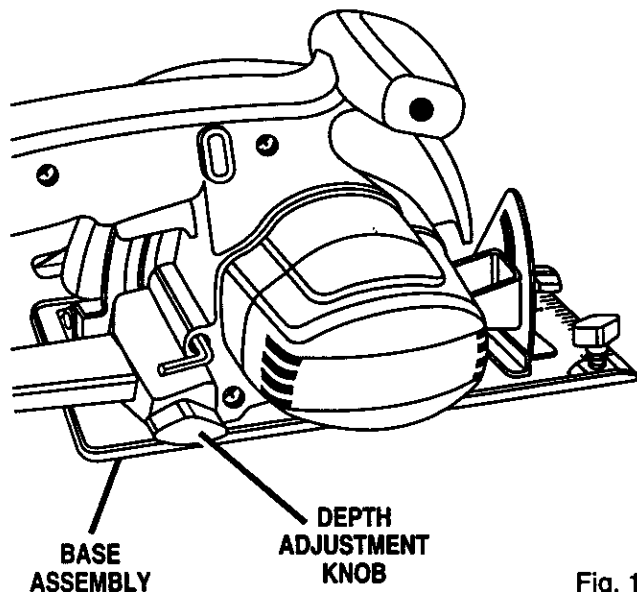

Fig. 11
- Loosen depth adjustment knob. See Figure 11.